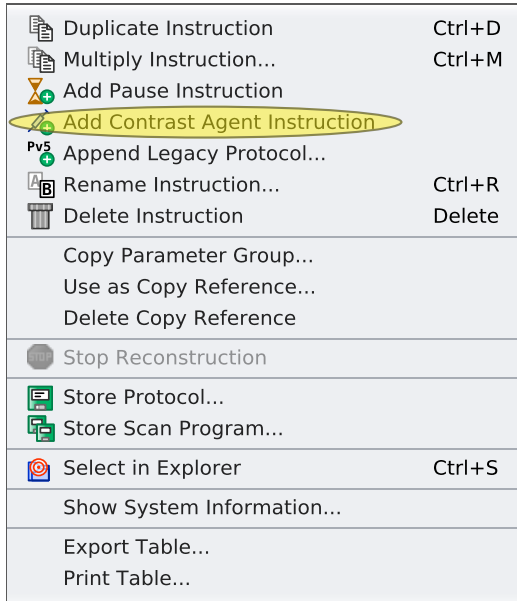

Figure 1.16: Context Menu Examination Card
2. Open the context menu (see [Figure 1.16 \[p 44\]](#)) and invoke **Add Contrast Agent Instruction**.